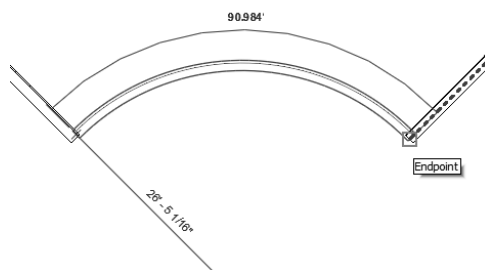
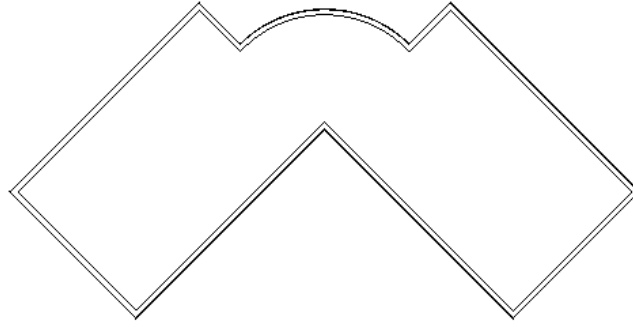

Figure 3-47 Completing the curved wall segment
Figure 3-48 Completed layout of the exterior walls for the Club project
3. Move the cursor toward the right and click when the cursor snaps to the endpoint of the inclined wall, as shown in Figure 3-47. Now, press ESC twice to complete the exterior wall profile, as shown in Figure 3-48.